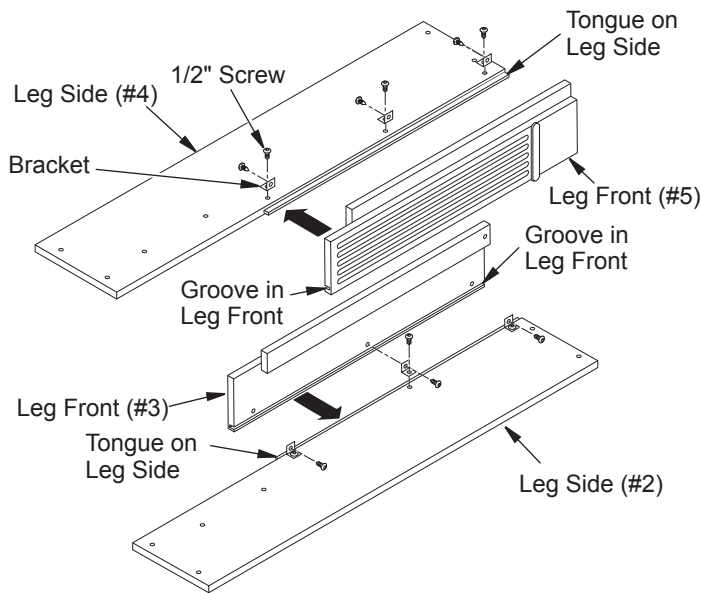

Figure 1 - Right and Left Leg Assemblies
1. Lay right side panel (#2) face down on a soft surface to avoid marking finish. Attach three brackets with 1/2" screws to bottom of right front leg (#3), leaving screws slightly loose. Face brackets out toward tongued side (see Figure 1). Place right front leg over right side (#2) matching groove in leg to tongue on side, as shown in Figure 1, matching trim pieces on side with trim on front. Align threaded holes with brackets on side. Start three 1/2" screws through brackets. Align bottom of side and leg assembly so they are flush with each other. Hold these pieces securely in alignment while tightening (but not over tightening) screws.